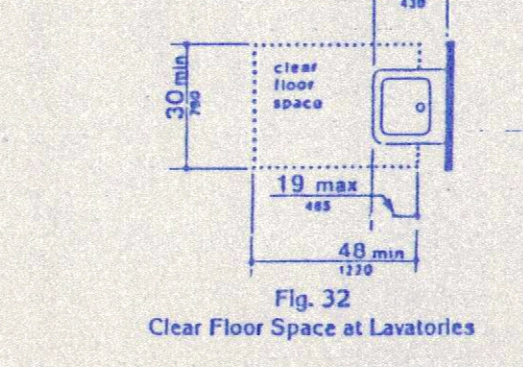

Fig. 32 Clear Floor Space at Lavatories
4.19.3 Clear Floor Space. A clear floor space 30 in by 48 in (760 mm by 1220 mm) complying with 4.2.4 shall be provided in front of a lavatory to allow forward approach. Such clear floor space shall adjoin or overlap an accessible route and shall extend a maximum of 19 in (485 mm) underneath the lavatory (see Fig. 32).